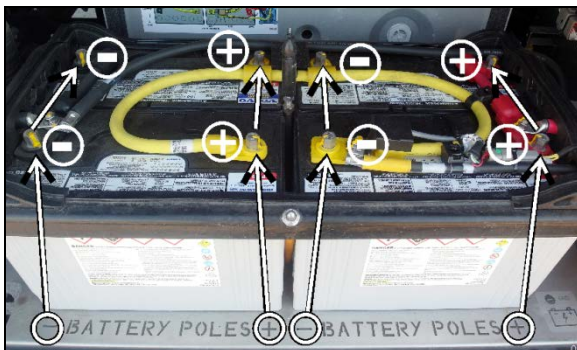

FIGURE 48: BATTERY BANK
1. To respect battery polarity in the arrangement, positive (+) and negative (-) signs are laser cut on the battery deck steel sheet. When installing the batteries, place the battery negative and positive poles according to the signs on the battery deck (Figure 48).